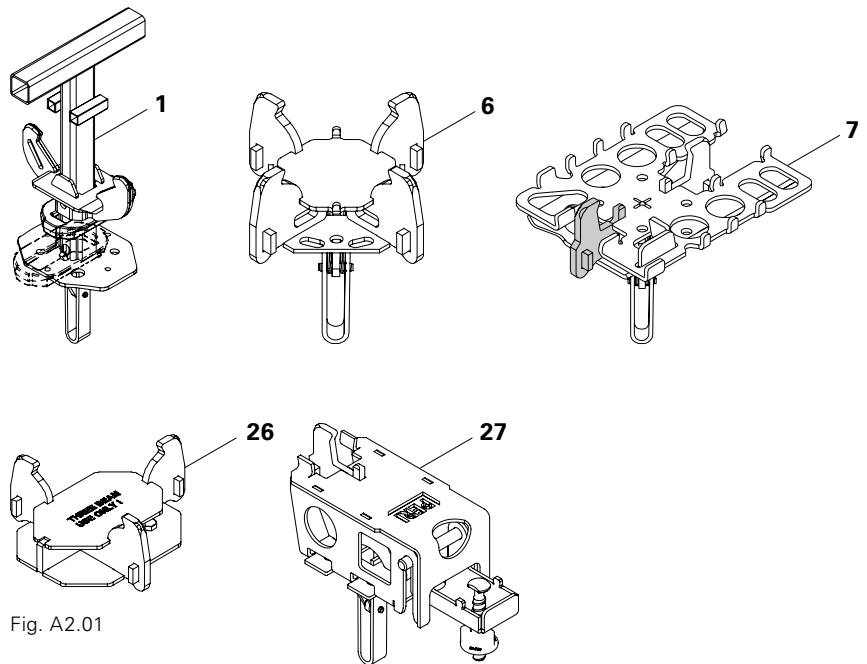

Fig. A2.01
Dropheads SFK, Propheads SSK, SDFK or Combiheads SCK fit on props with a hole diameter of  $\varnothing 38 - 40$  mm. With hole diameters  $> 40$  mm, the heads must be bolted diagonally using 2 Bolts ISO 4016 M12 x 40-4.6 galv., Mu, item no. 035440. (Fig. A2.01)
2. Insert the prepared Drophead (1), Prophead (6) or Combihead (7) into the prop. The self-locking coupling is secured automatically. (Fig. A2.01)